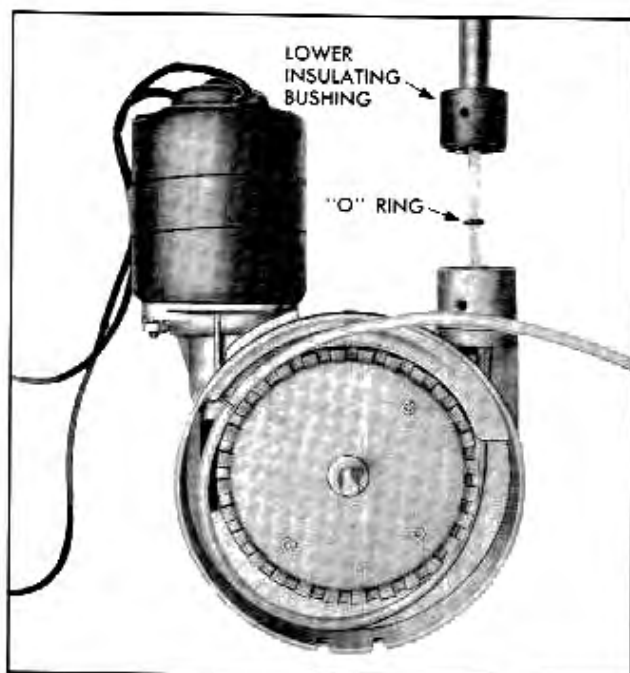

Fig. 14-14 Installing Nylon Cable and Mast Assembly
4. Install nylon cable and mast assembly into drive unit, lining up holes in lower insulating bushing with holes in drive unit (Fig. 14-14). (Make sure small "O" ring is in place on nylon cord.)